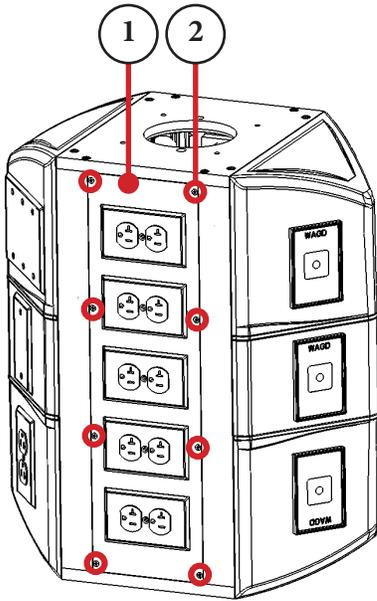

Figure 8.14 - Location of Screws on Access Panel
- a. Using a Phillips screw driver, open the access panel (Figure 8.14, Item 1) on the front or back of the FLEXiS System by removing the eight Phillips screws (Item 2).